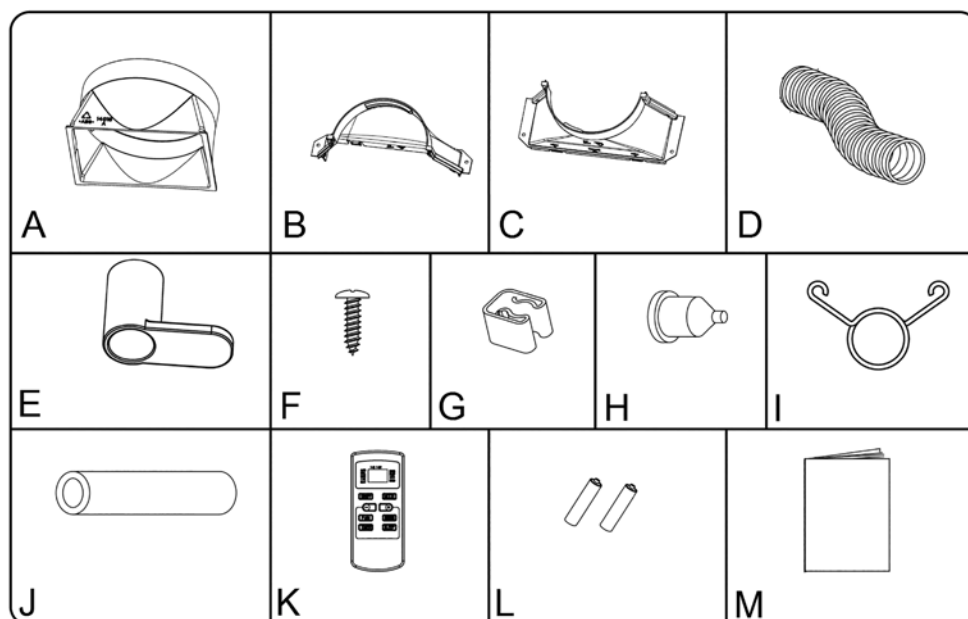
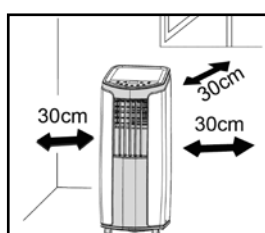
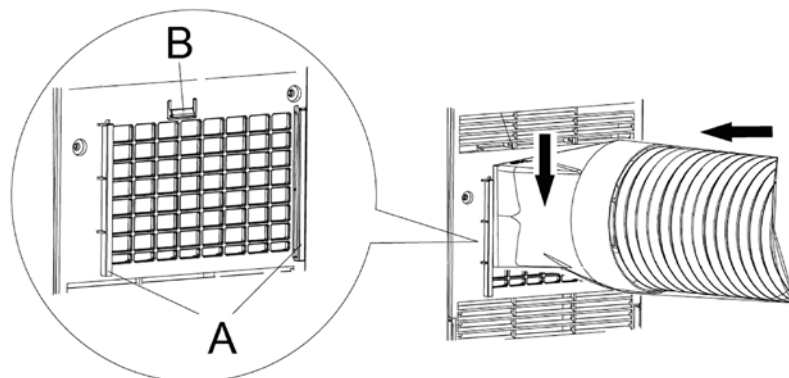

Fig. 1
Fig. 2
Fig. 4
- 3 Please keep a distance of 30 cm between the unit and the wall or other objects to ensure proper air circulation. See fig.2.
- 4 Join the two connectors B and C (see fig. 1) by pushing them firmly together in the direction of the arrow (see fig. 2). Then screw connector B and C onto the air hose.
- 6 Join the air hose with connector A (see fig. 1) to the air conditioner by sliding it down through the guides A at the rear of the unit passed clasp B (see fig. 4).